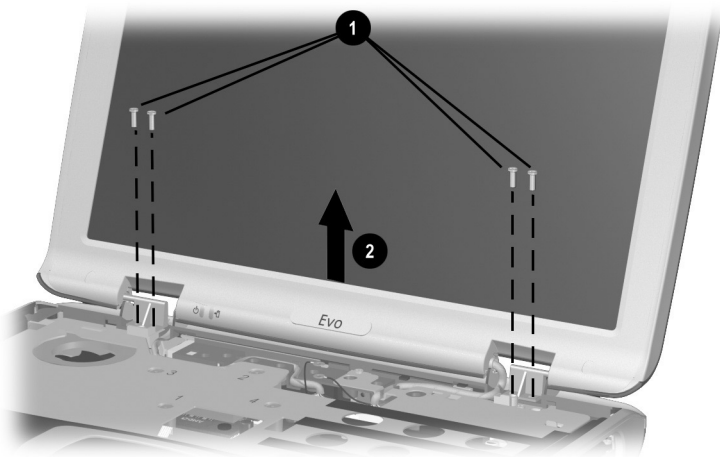

Figure 5-23. Removing the Display
12. Remove the four silver TM2.0 × 8.0 screws ❶ that secure the display to the base enclosure.
13. Remove the display ❷ (Figure 5-23).